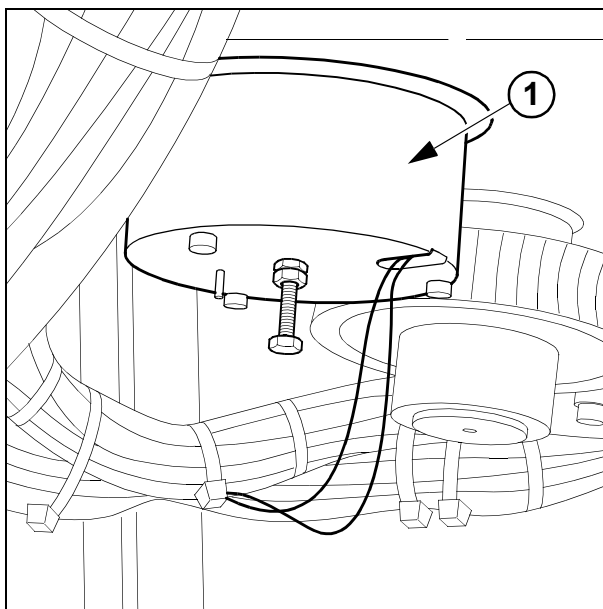

Fig. 10
- Brake (1/Fig. 10) must release when the ↓ key is pressed and when the key is released, it must audibly engage.